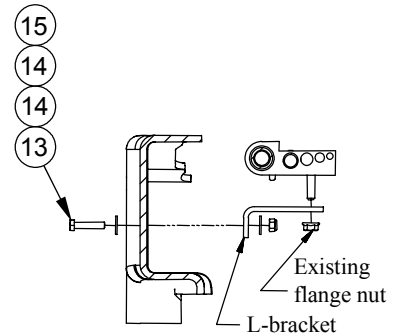

Figure 3c
14. **On 2005 and up Gas Engine Vehicles Only.** Use the factory flange nut that was removed in Step 2 to tighten the tube holder onto the L-bracket as shown in Figure 3c.